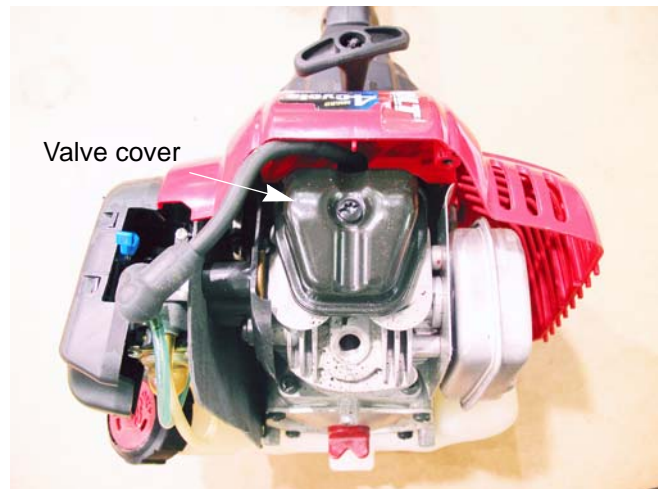

Figure 2.13
2. Remove the valve cover using a T-25 driver. See Figure 2.13.